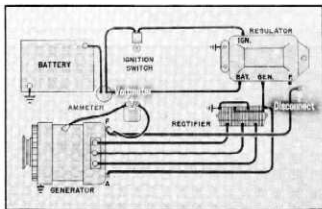

Fig. 38
5. With voltmeter connected (fig. 38) a reading